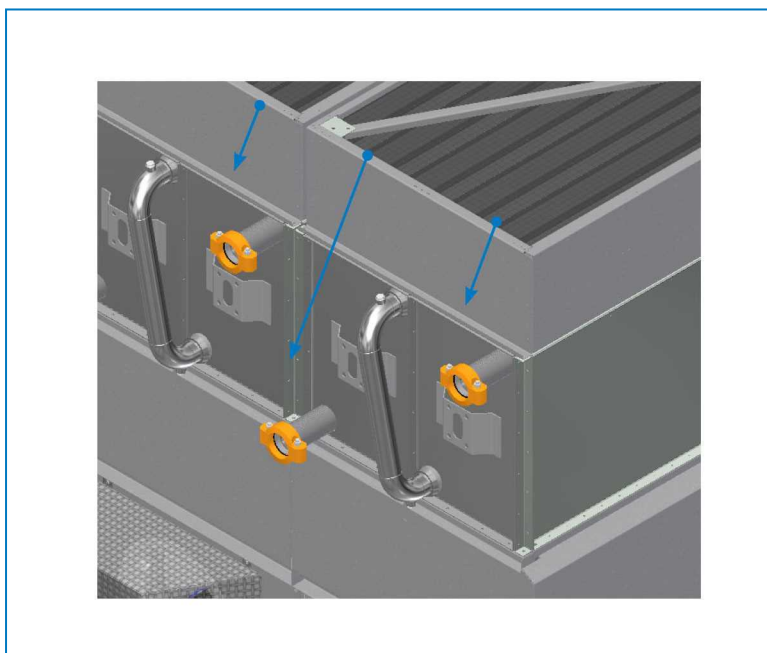

Fig. 20 Place flexible coupling (series flow shown)
1. Place the ND80 flexible coupling (Victaulic BAC #202174M6) onto the hCore™ Heat Transfer Technology system. See figure 20.